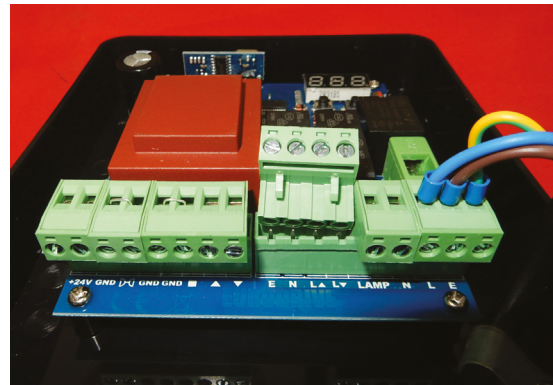

fig.1
- 6** Remove the green 4 terminal motor connector from the board (**fig.1**) and you will see the letters on the board underneath.
- 5 Press and release the down button (▼). If the barrel continues in closing direction, press the stop button and in the top left corner is a bank of 5 dip switches (fig.1) flick the second from top dip switch to the right. You should now have to press and hold the down button for the barrel to move in the closing direction. Hold until the barrel stops moving.